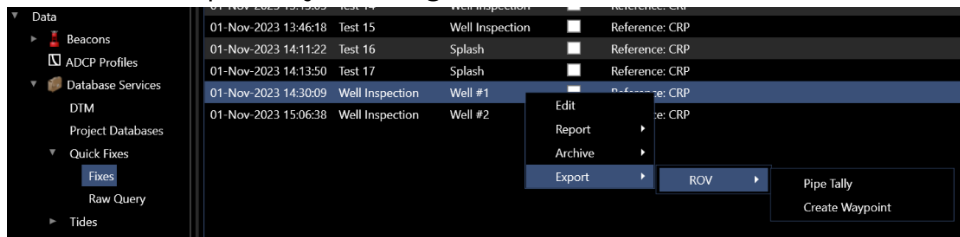

FIGURE 14-32 QUICK FIXES – SPATIAL DATA EXPORTING EXAMPLE
6. The **Spatial Tab** is used to make selected select spatial items available for exporting to a waypoint or added to Pipe Tally. See Figure 14-32.